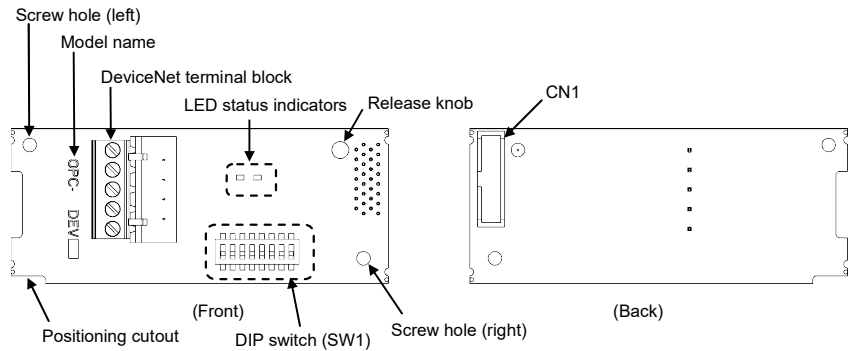

Figure 2.1 Names of Parts on DeviceNet Communications Card (OPC-DEV)
- (1) A communications card, two screws (M3 × 8), and the DeviceNet Communications Card Instruction Manual (this manual) are contained in the package.
- (2) The communications card is not damaged during transportation--no defective parts, dents or warps.
- (3) The model name "**OPC-DEV**" is printed on the communications card. (See Figure 2.1.)
Figure 2.1 shows the names of the parts on the DeviceNet communications card.
- (2) Insert connector CN1 on the back of the communications card (Figure 2.1) into the option connection ports on the inverter's control PCB. Then tighten the two screws that come with the card. (Figure 3.2)
Check that the positioning cutout (shown in Figure 2.1) is fitted on the tab (① in Figure 3.1) and connector CN1 is fully inserted (② in Figure 3.1). Figure 3.2 shows the communications card correctly mounted.
- (3) Perform wiring on the communications card.